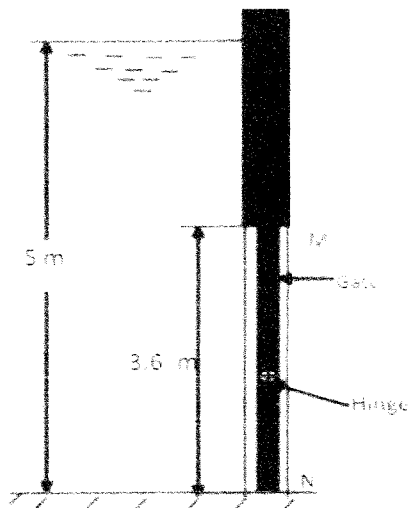

Figure-1
6. A 3.6 m by 1.5 m wide rectangular gate MN is vertical and is hinged at point 0.15 m below the center of gravity of the gate shown in Figure-1. The total depth of water is 5 m. What horizontal force must be applied at the bottom of the gate to keep the gate closed?